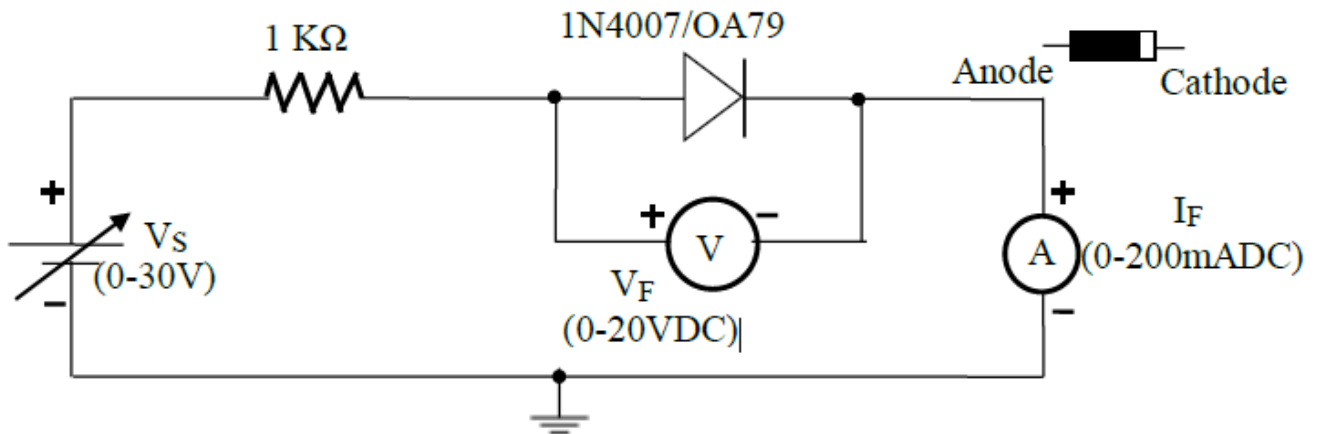

Fig. 1 Schematic for Forward Bias
1. Connect the circuit according to the schematic in Fig. 1. Increase the voltage in steps of 2V up to 8V and then at 16V, 20V, 25V and 30V while noting down in Table 1 the corresponding forward current.